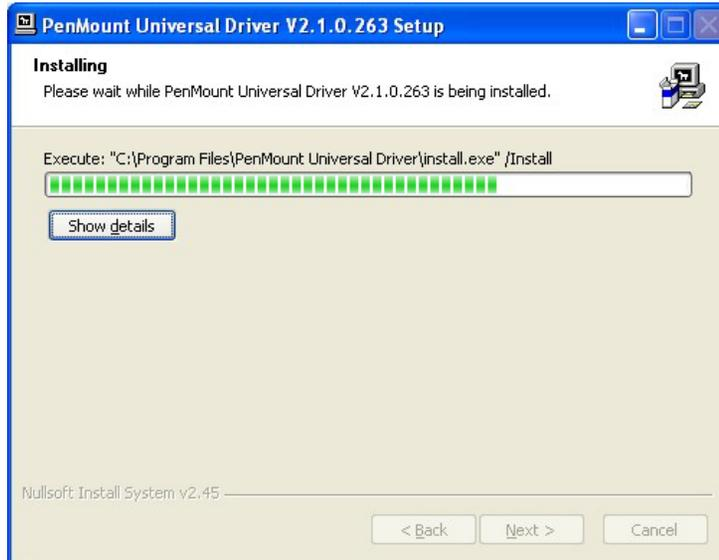

Figure 3-4: Touch Screen Driver Installation Screen
Step 9: The **Install** screen appears and displays the progress of the installation (**Figure 3-4**).